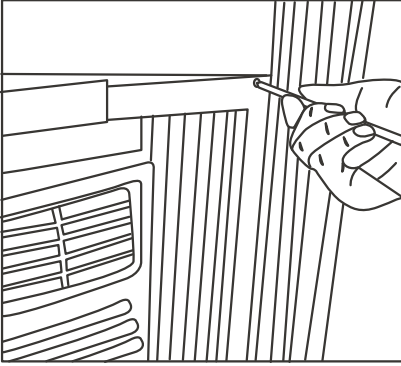
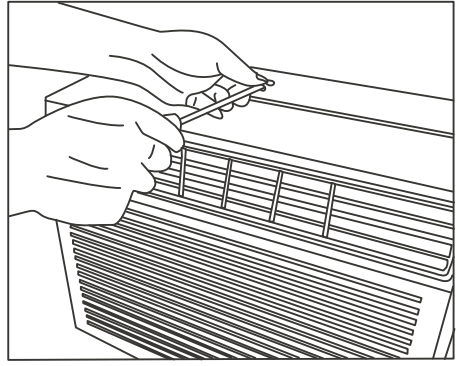

Fig.9
Fig.10
- 5** Drive 1/2" (12.7mm) locking screws through frame holes into window sash (Fig.9 Fig10).